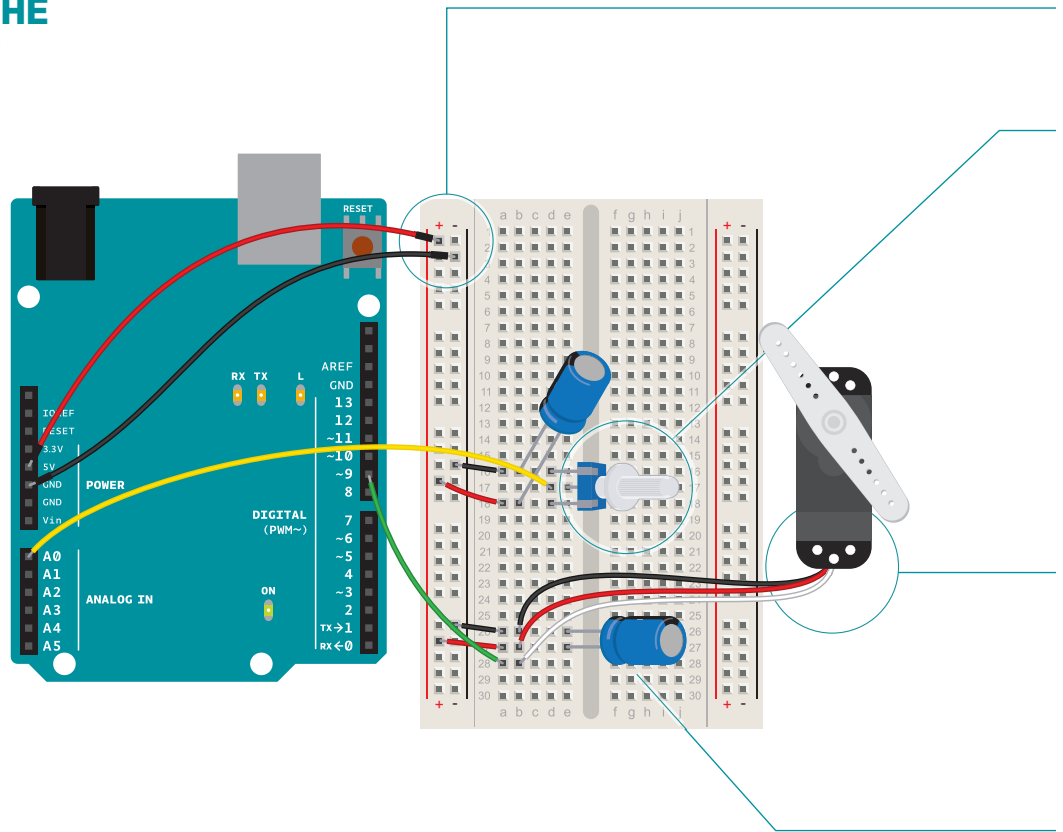

Fig. 1
- 4 When a servo motor starts to move, it draws more current than if it were already in motion. This will cause a dip in the voltage on your board. By placing a 100uf capacitor across power and ground right next to the male headers as shown in Fig. 1, you can smooth out any voltage changes that may occur. You can also place a capacitor across the power and ground going into your potentiometer. These are called *decoupling capacitors* because they reduce, or decouple, changes caused by the components from the rest of the circuit. Be very careful to make sure you are connecting the cathode to ground (that's the side with a black stripe down the side) and the anode to power. If you put the capacitors in backwards, they can explode.